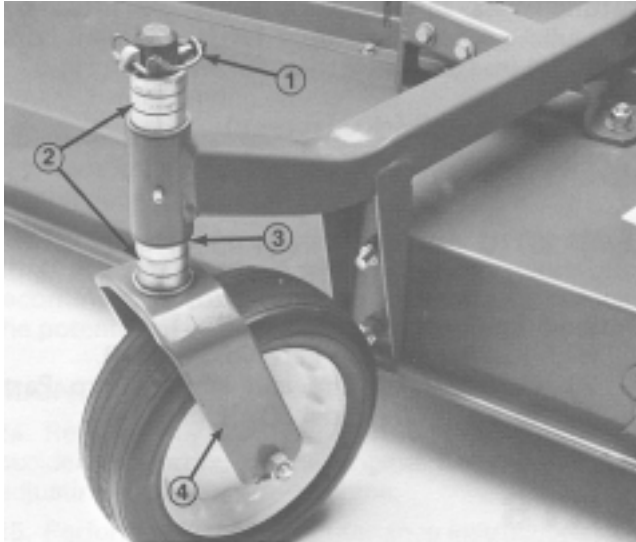

Figure 1
3. Slide spacers onto castor spindle to get desired height-of-cut: refer to Height-of-Cut Chart, Page 10. Slide thrust washer onto spindle, push large castor spindle through front castor arm and small castor spindle through rear castor arm, install remaining spacers onto spindle and install lynch pin to secure assembly (Fig. 1, 2).
IMPORTANT: Thrust washer – not the spacers – must contact the bottom of the castor arm (Fig. 1, 2).
Note: Insert lynch pin in front side of spindle with castor wheels pointed in a forward direction (Fig. 1, 2).